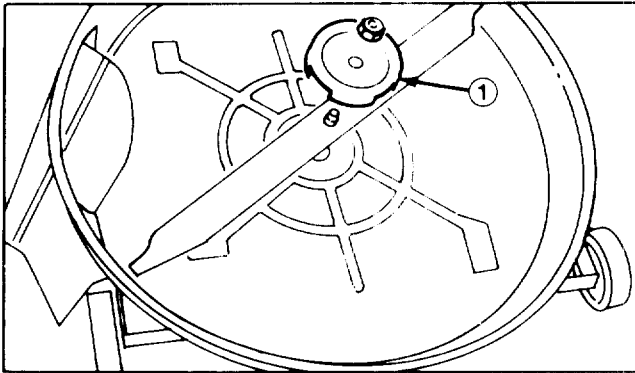

Figure 20
6. Grasp end of blade using a rag or thickly padded glove; then remove lock nut, anti-scalp cup and blade (Fig. 20).
9. In sequence, install blade, anti-scalp cup and lock nut (Fig. 20). Tighten lock nut to 45-60 ft-lb (61-81 N·m)